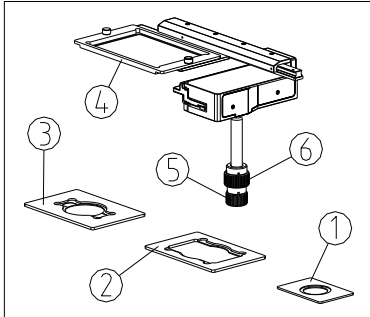

Fig. 13
(1) Place the microtitration plate on the mechanical stage holder (4) when using 96 # or 24 # microtitration plate. (See Fig.13)
(2) In order to clip all the types of board tightly, please use the matched holder and attachable mechanical stage as follows:
- Use the Terasaki holder (2) to place Terasaki board.
- Use the $\phi 35\text{mm}$ petri dish holder (1) to place $\phi 35\text{mm}$ petri dish.
- Use the specimen slide holder (3) to place the $\phi 54$ petri dish and specimen slide.
(3) Rotate the horizontal moving ring (5) and vertical moving ring (6) to shift the specimen to the proper position. (Work distance $X*Y=120\times 80\text{mm}$)